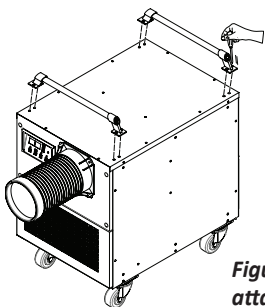

Figure 6 - handle attachment
3. Use screws (enclosed inside of accessory box with handle) to install the handle on the unit as shown in Figure 6.